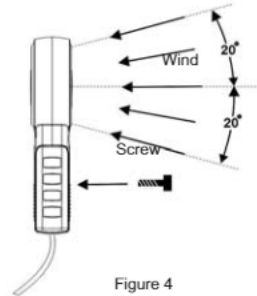

Figure 4
Measuring Air Velocity (Air Temperature)(See Figure 4)
4. As shown in Figure 4, place the anemoscope in a direction as marked on inner side of the fan. And secure the handle with a screw (the user needs to buy the screw on his/her own).
6. To obtain a accurate reading, please hold the anemoscope horizontally as in the Figure 4, the angle deviation should be <200.